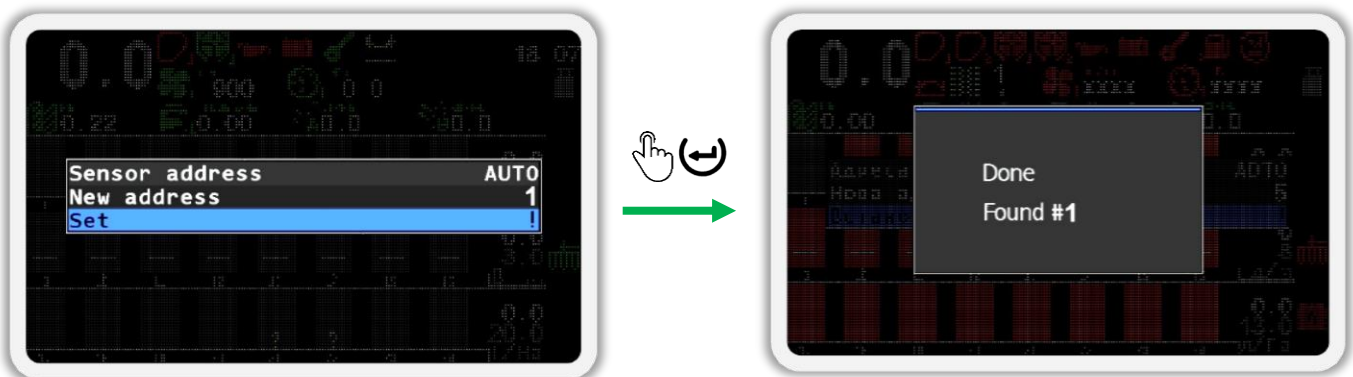

Figure 110
the  “Menu” button. As a result, the “Seed sensor” menu will open (see Figure 110 on the left).
- Using the  “Up” or  “Down” buttons select the  “Sensor address” item and make sure the “AUTO” value is selected (see Figure 110 on the left). Use the  “Plus” and  “Minus” buttons to change this parameter.
- Using the  “Up” or  “Down” buttons to select the  “New address” item and using the  “Plus” or  “Minus” buttons enter a new program address (see Figure 110 on the left).
- Using the  “Up” or  “Down” buttons select the  “Set” item and press the  “Menu” button. As a result of successful sensor readdressing, the message “Done” will be displayed on the screen (see Figure 110 on the right).